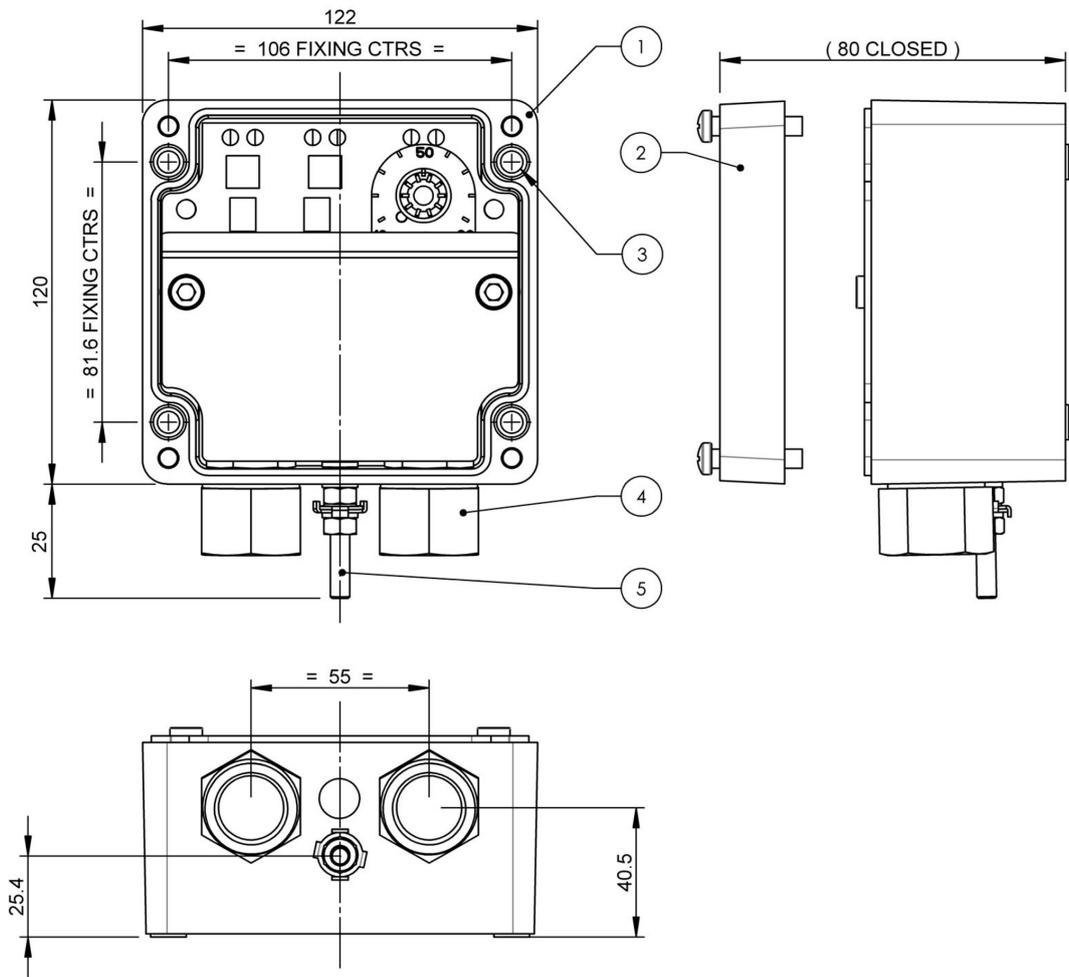

Figure 15. Flow alarm relay box installation
- Gland entry sizes and positions are shown in Figure 15.